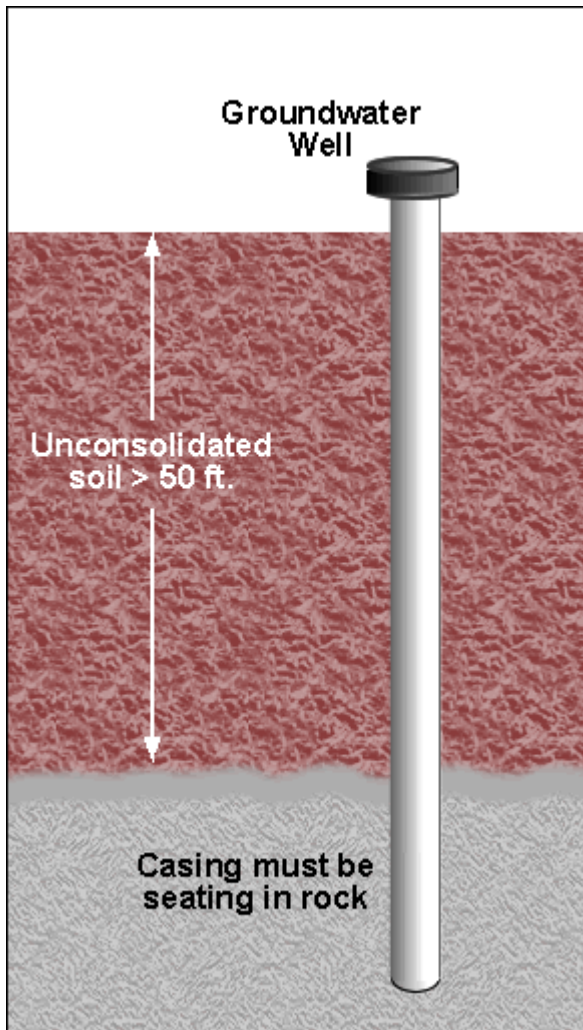

Figure 3.9a
- ☑ Where depth of unconsolidated material above the aquifer is more than 50 feet, the casing is to be seated in unbroken rock (Figure 3.9a).